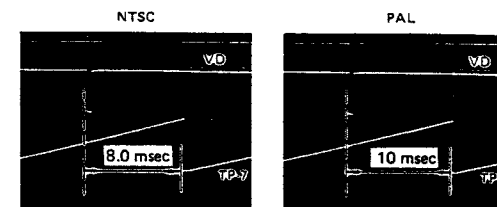

Fig. 4-8
- (1) Connect an oscilloscope A-ch to VD output (Rear of MAIN UNIT) and B-ch to TP-7 on WFP BOARD.
- (2) Adjust R68 (V-PHASE) so that the front of the VD signal aligns with the rear of sawtooth waveform as shown in Fig. 4-8.